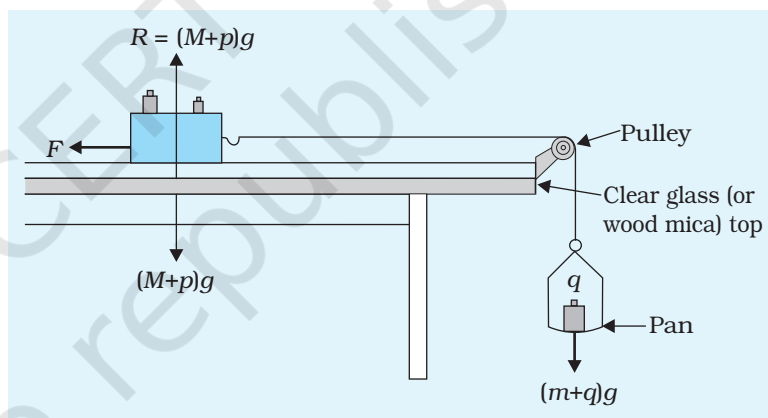

Fig. E 7.2: Experimental set up to study limiting friction
In this experiment, the relationship between the limiting friction and normal reaction is studied for a wooden block. The wooden block is made to slide over a horizontal surface (say glass or a laminated surface) (Fig. E 7.2).
2. Measure the mass (M) of the given wooden block with hooks on its sides and the scale pan (m) with the help of the spring balance.
4. Fix a frictionless pulley on one edge of table-top as shown in Fig. E 7.2. Lubricate the pulley if need be.